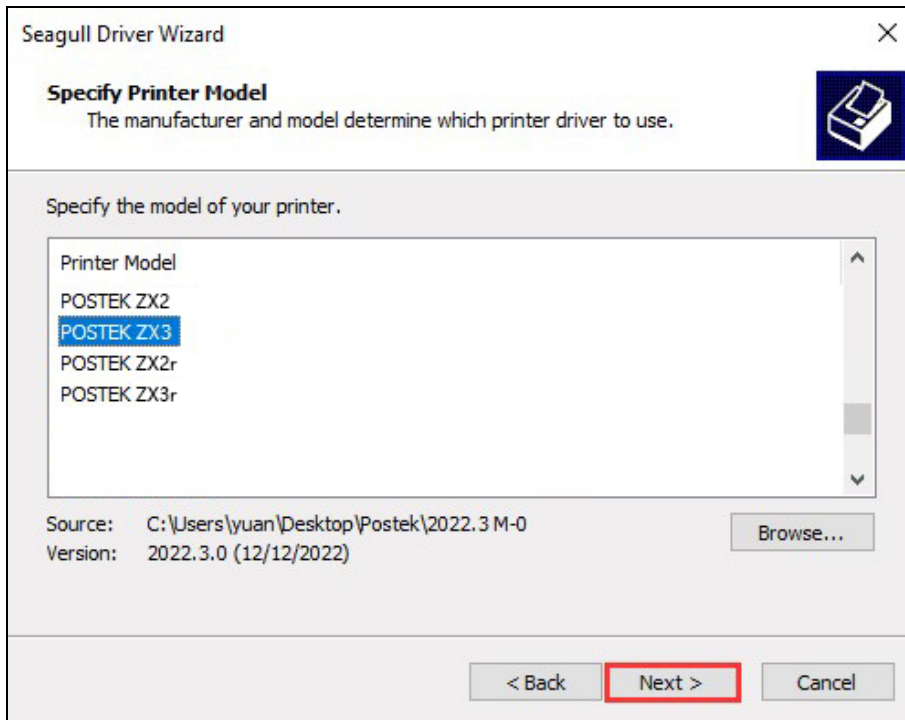

Figure 2-36 Specify Printer Model Screen
4. The “Specify Printer Model” screen displays, select the printer model, and click “Next”, as shown in Figure 2-36.